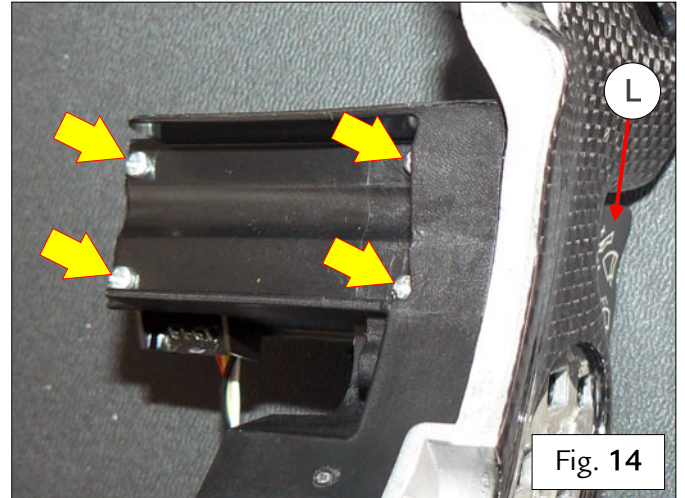

Fig. 14
- Undo the indicated screws and remove the windscreen wiper switch (L) – Fig. 14.